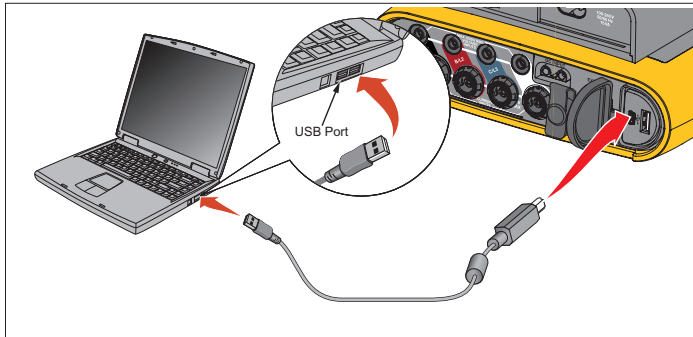

Figure 13. Power Logger to PC Connections
3. Connect the USB cable to the USB ports of the computer and the Logger as shown in Figure 13.